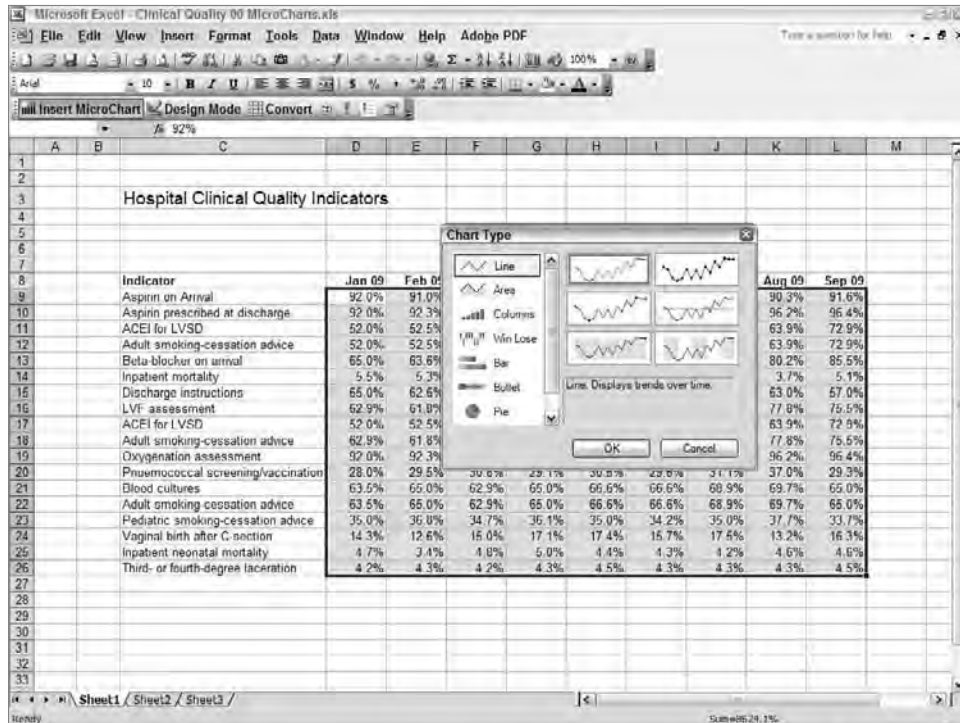

Figure 26.4: The Chart Type dialog box enables you to select from seven different chart styles with numerous preformatted settings.
2. Click the Insert MicroChart button, and the Chart Type dialog box will display as shown in Figure 26.4.